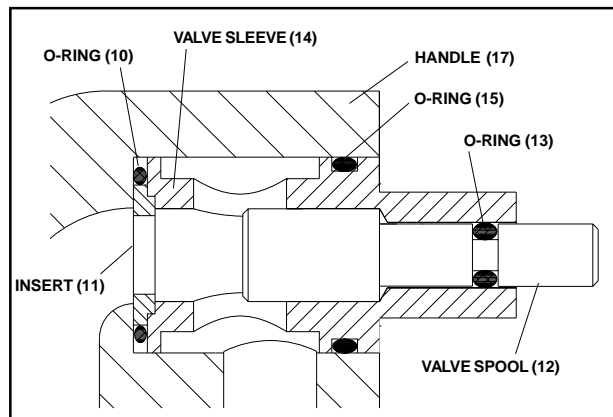

Figure 5.
9. Install the 4 capscrews (16) and tighten to 25 ft. lbs.
10. Apply grease and install a new o-ring (15) onto the valve sleeve (14).
11. Apply grease and install a new o-ring (13) onto the valve spool (12).
12. Lubricate the valve spool and valve sleeve with clean hydraulic fluid. Insert the valve spool into the valve sleeve. Install the insert (11) onto the valve sleeve. Install a new o-ring (10) around the outer diameter of the insert. Insert this assembly into the body. See figure 5.